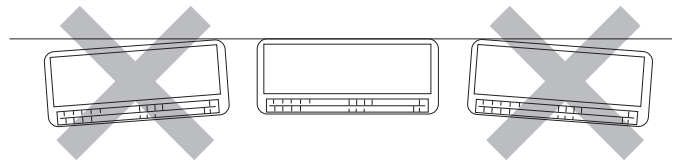

Fig. 3-3
②	3-15/64	82
③	17-9/32	439
④	17-1/64	432
⑤	1-11/16	43
⑥	3-47/64	95
- (3) Double check with a carpenter's level or tape measure that the panel is level. This is important to install the unit properly. (Fig. 3-3)